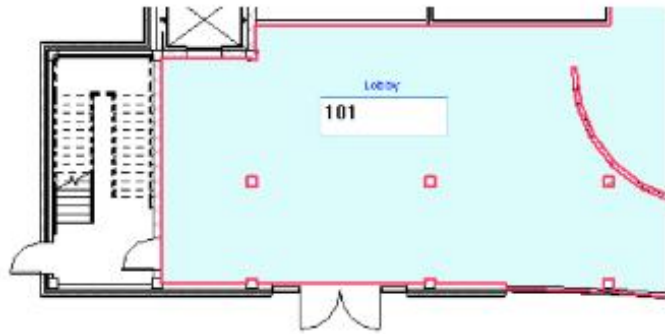

Figure 15–27
6. Return to the **Modify** command and change the name of the room and the room number, as shown in Figure 15–27. Click in empty space to finish the command.